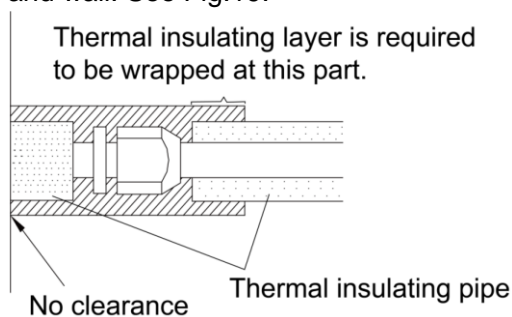

Fig.19
- 3) Joints at indoor and outdoor units should be wrapped with insulating material and leave no clearance between pipe and wall. See Fig.19.